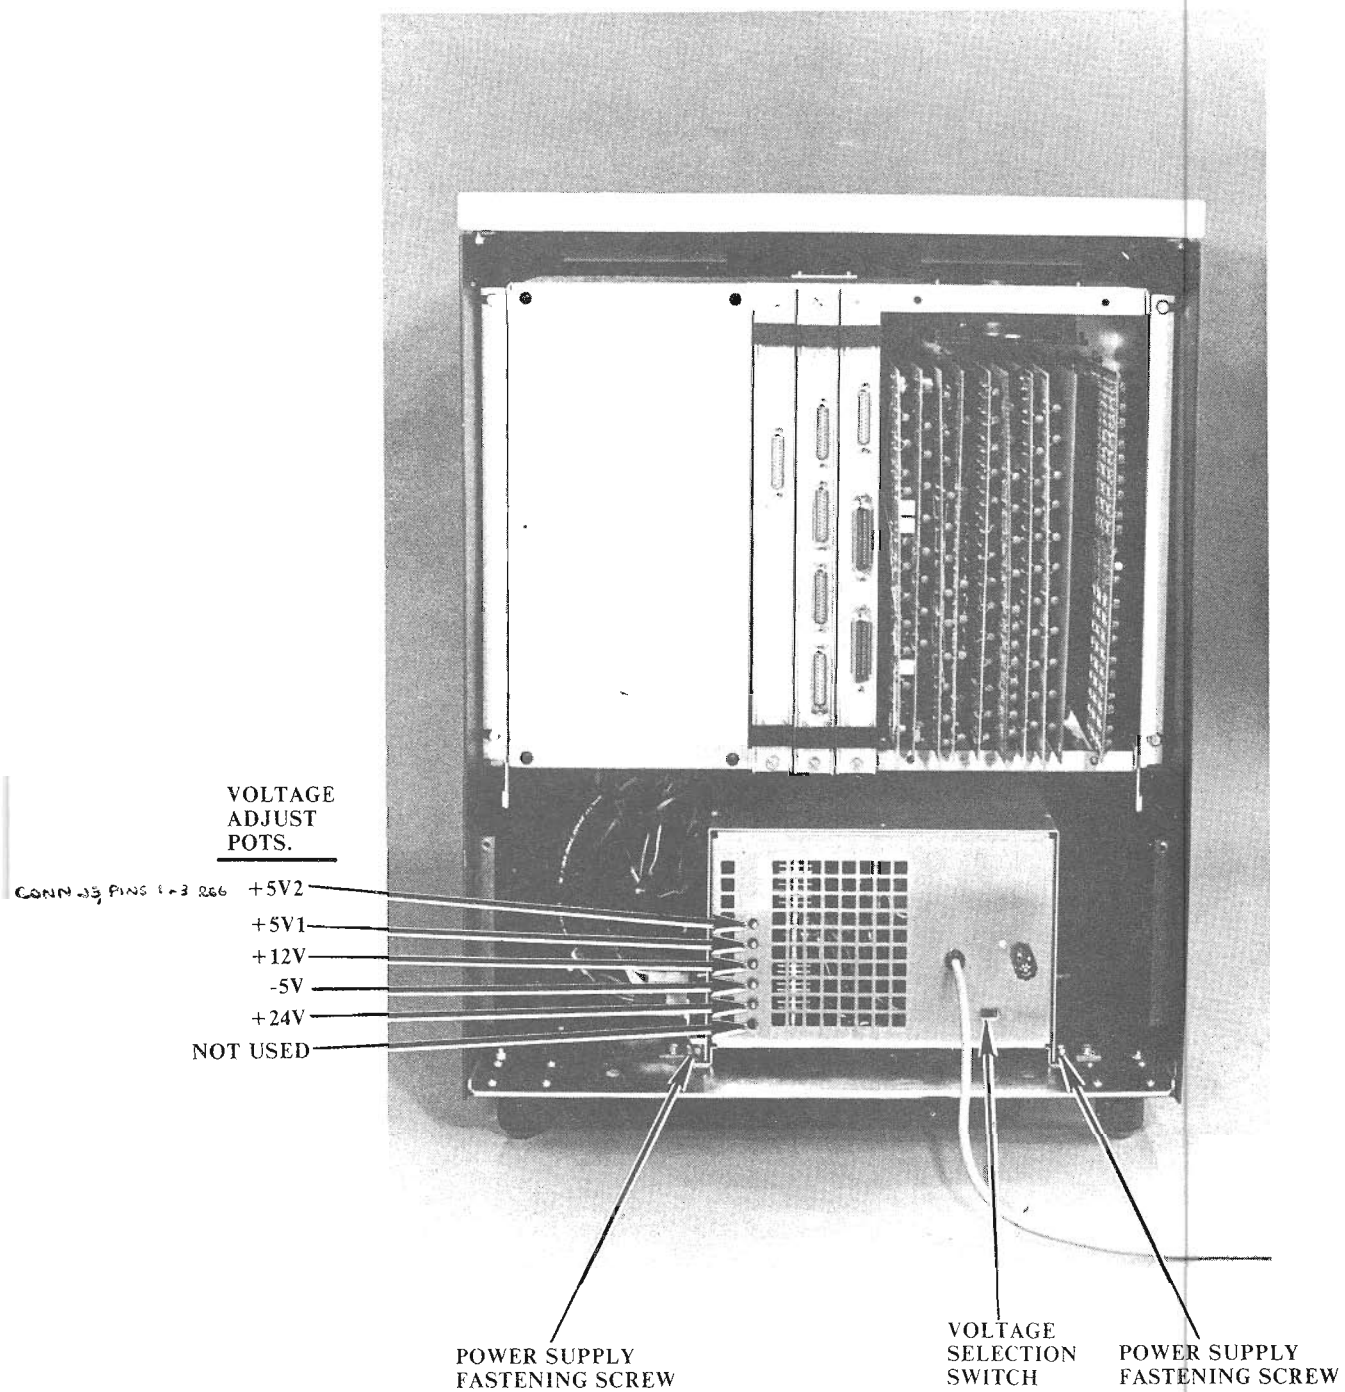

FIGURE 11-1 POWER SUPPLY REGULATOR ADJUSTMENT POTENTIOMETERS
4. Check the dc voltages with a digital voltmeter for the values listed in TABLE 11-1. (The test points for monitoring the voltages are shown in FIGURE 8-16. The test points are accessible from the circuit side of the motherboard. To check +24V, monitor J5 pin 1 of both the diskette and fixed-disk drives (ref: FIGURE 8-10). The yellow wires in the CPU motherboard-to-disk drive dc power harness connect to those pins.) Adjust the trimpots where indicated in FIGURE 11-1 to obtain correct voltage levels where necessary.
5. Remove the two screws (ref: FIGURE 11-1) from the rear sides of the power supply and pull the power supply (from the rear) out of the cabinet.